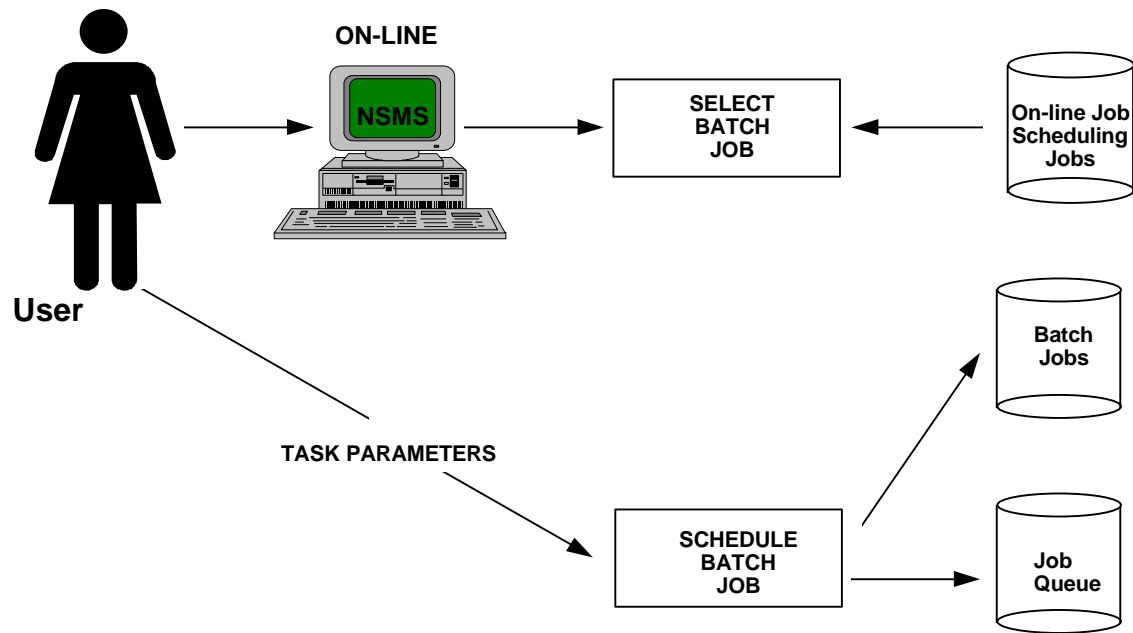

FIGURE 4-13 SCHEDULE BATCH JOB
**General Description** - The Batch Scheduler is a common process that is performed whenever a user selects a batch job to be scheduled (see Figure 4-13). The job may be selected from a menu or the command name for the job may be entered at the command